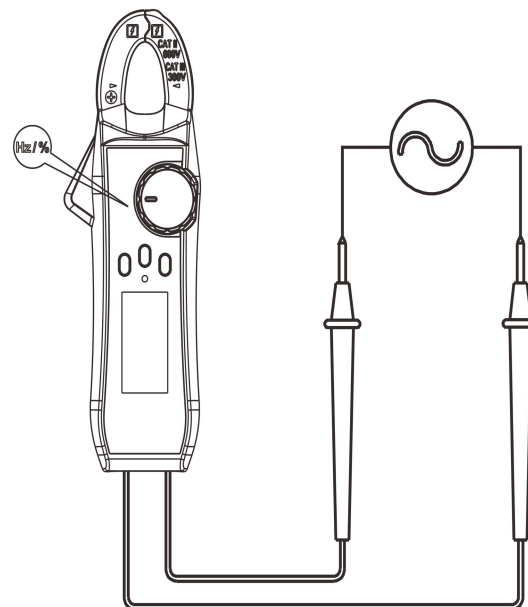

Figure 8
- Get the red and black probes to contact the tested part, such as power socket (Figure 8).